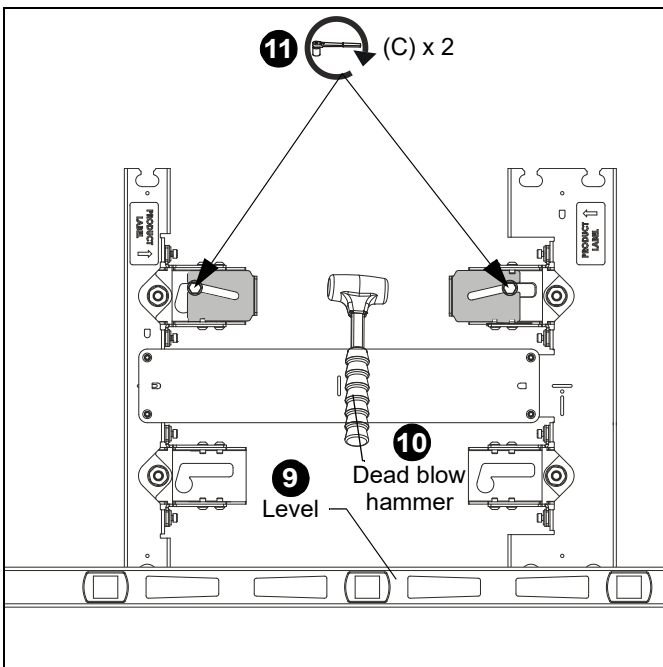

Figure 13
- Check the level of the mount at the bottom of the teardrop slots. (See Figure 13)
- If the mount is not level, slide or use a dead blow hammer to lightly tap the spacer into place. This will lift the mount up as the lag screw rides in the washer's angled slot. (See Figure 13)
- When the mount is leveled, tighten the lag screws (C). (See Figure 13)